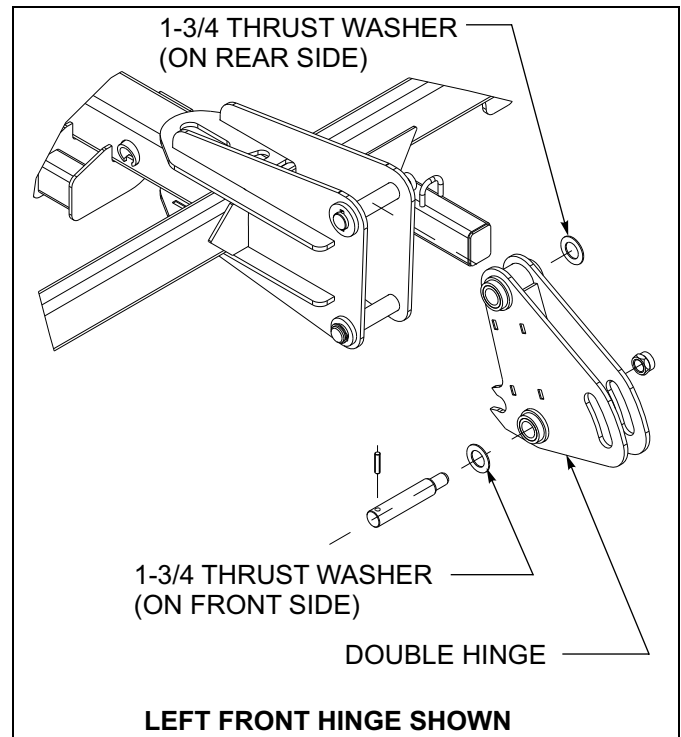

Figure 3-10: Thrust Washer Locations
2. Attach outer wing with thrust washer toward front of machine (See Figures 3-10 thru 3-12.) Install 1-3/4 x 9-3/4" through outer wing and fold locks. Install 2-13/16 x 1-13/16 washers and snap rings to secure pins.